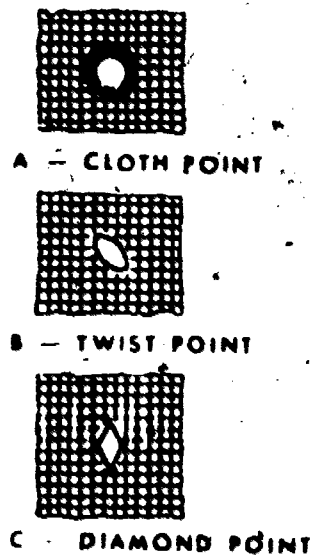

Figure 2. Openings Made By Needle Points.
(cloth point or cutting point). Odd numbers (87) indicate cloth point needles and even numbers (88) indicate cutting point needles. Cloth point needles are round sharp-pointed needles used for sewing cloth, since they do not cut the strands as they are forced between the woven threads of the fabric. Many different varieties of cutting point needles are available, but they are used only for cutting heavy leather. Figure 2 shows the shape of the openings made in the material by the cloth point (A), twist point (B), and the diamond point (C). Figure 2A illustrates why it is important that a round pointed needle be used in cloth. Figure 2B and C shows how cutting point needles will cut the warp and filler threads.